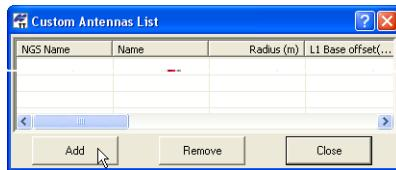

Figure 5-10. New Custom Antenna
3. Click **Add** (Figure 5-10). To remove an antenna, click on the antenna's row and click **Remove**.